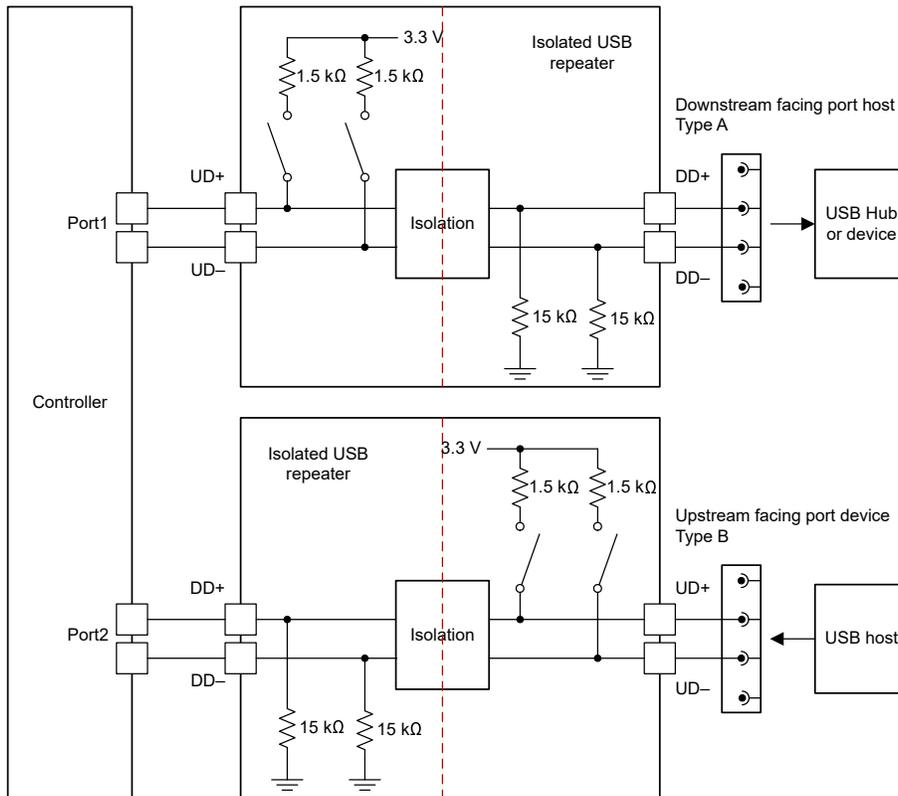

Figure 1. Traditional implementation offering dedicated host and peripheral ports with two isolated USB repeaters
**Figure 1** shows the traditional implementation of isolated host and peripheral ports in industrial equipment.